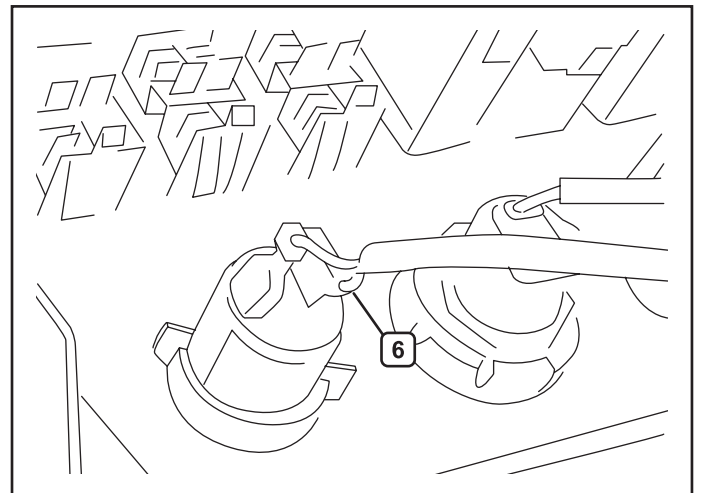

Figure 10.
Accessory Power for Switches or Other Controls is the red wire (6) of the accessory plug as shown in figure 10.